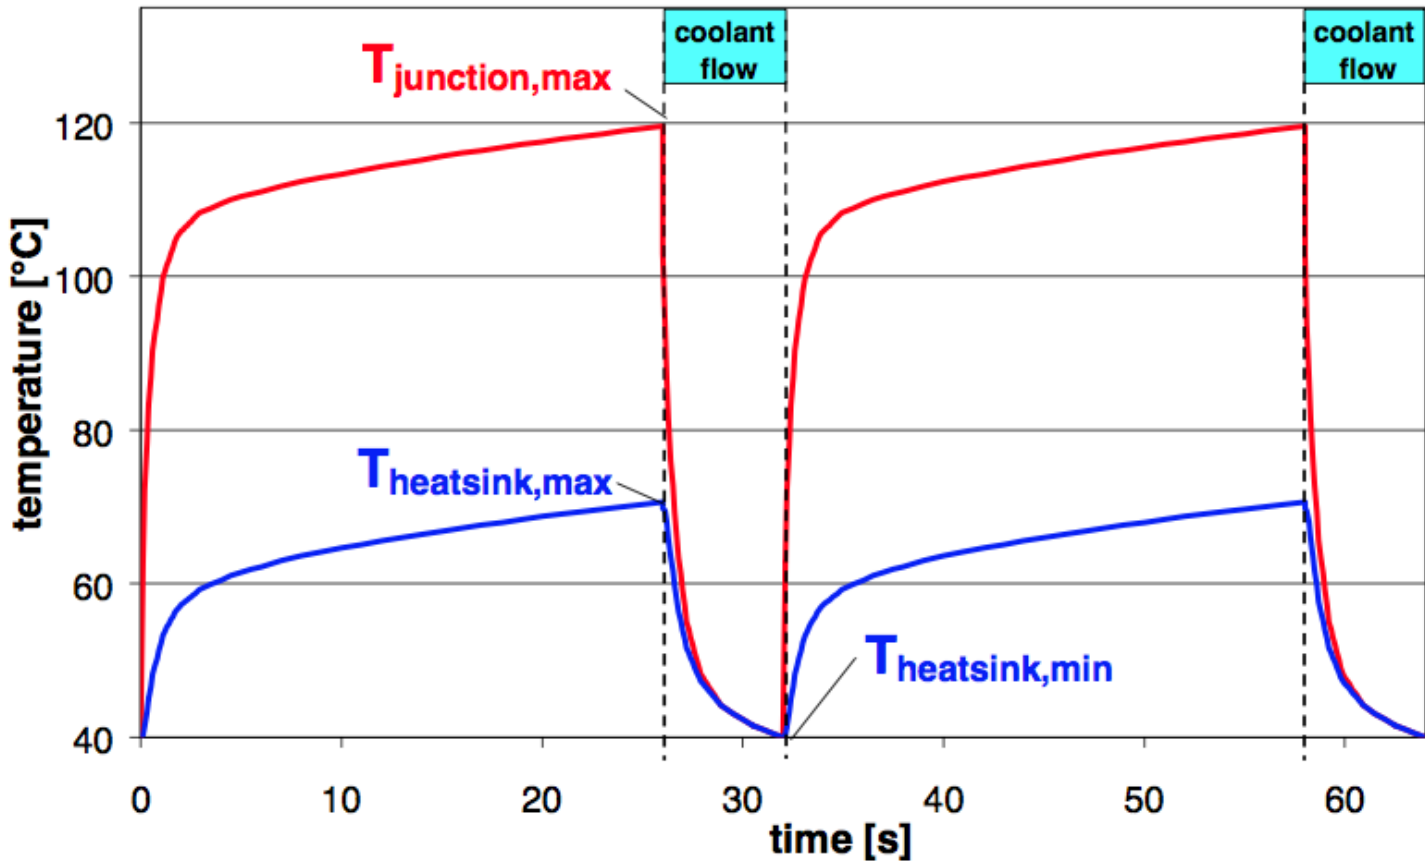

Fig.2: Simulation of the thermal cycles
- Operation model 2 (Fig.2) shows frequent switch-on and -off of the semiconductor within short time. This is referred to as thermal cycle operation.